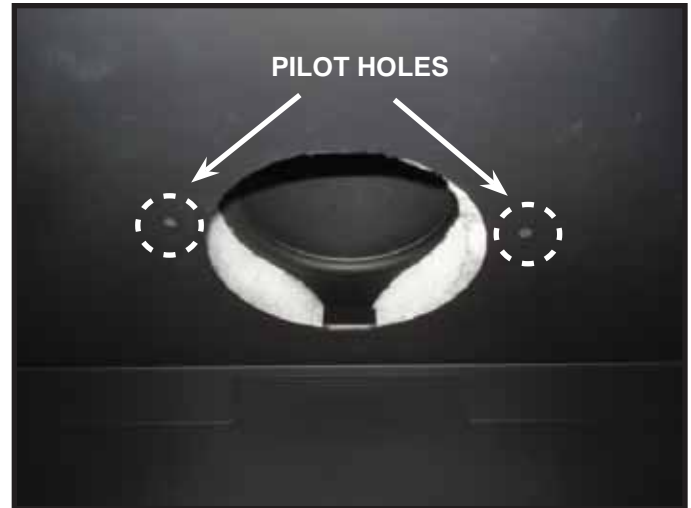

Figure 7.9 Location of Pilot Holes
3. Use (2) $\frac{1}{2}$ " self-piercing screws to secure vent restrictor to firebox heat shield. See Figure 7.9